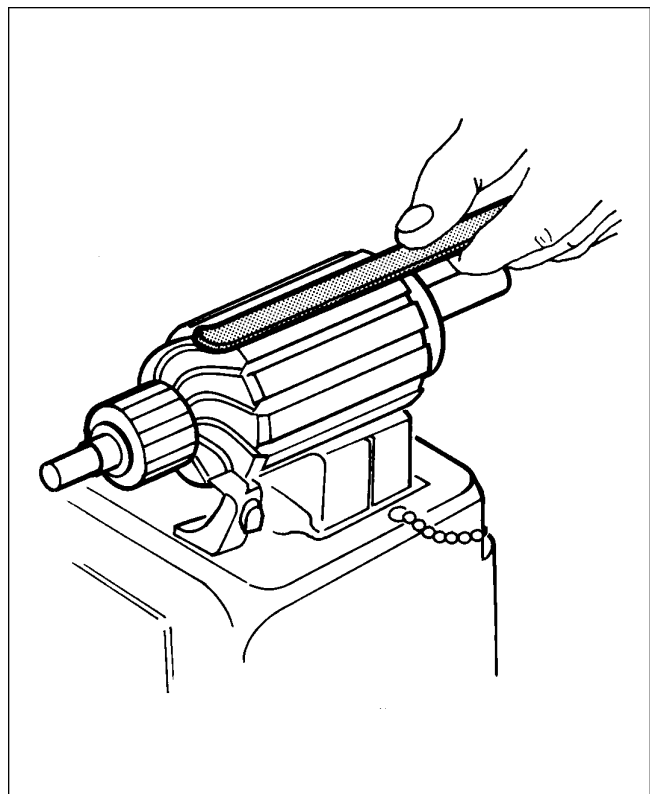

Figure 80-3. Testing Motor Armature for Shorts
3. To test for shorted armature coils, a growler is used. (Refer to Figure 80-3.) The armature is placed on the growler and slowly rotated by hand while a steep strip is held over the core so that it passes over each armature core slot. If a coil is shorted, the steep strip will vibrate.